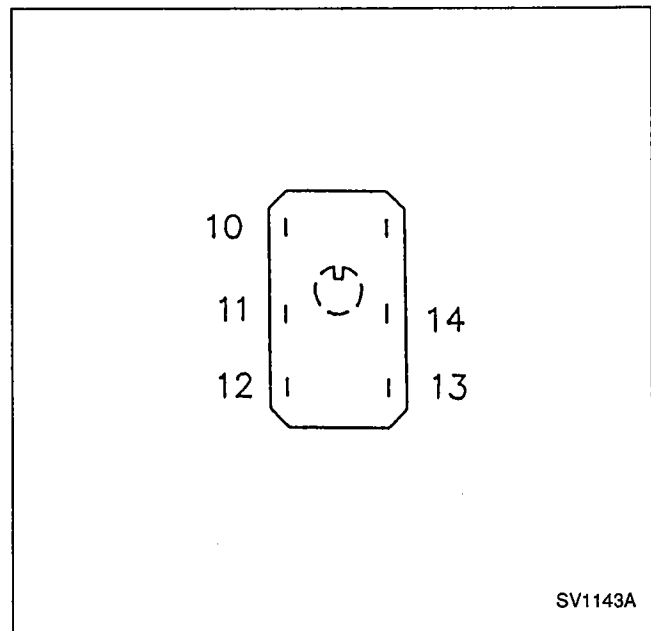

FIGURE 24. ICE/OFF/WATER PUMP SWITCH CHECK
1. Inspect switch for correct wiring (Figure 24).